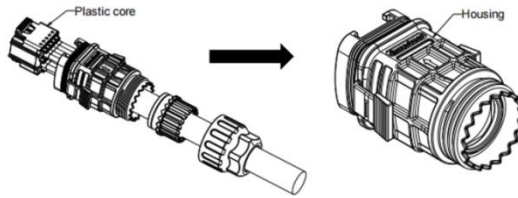

Figure 6-20-3 Load the plastic core
- 3) Load the plastic core into the housing, as shown in Figure 6-20-3.